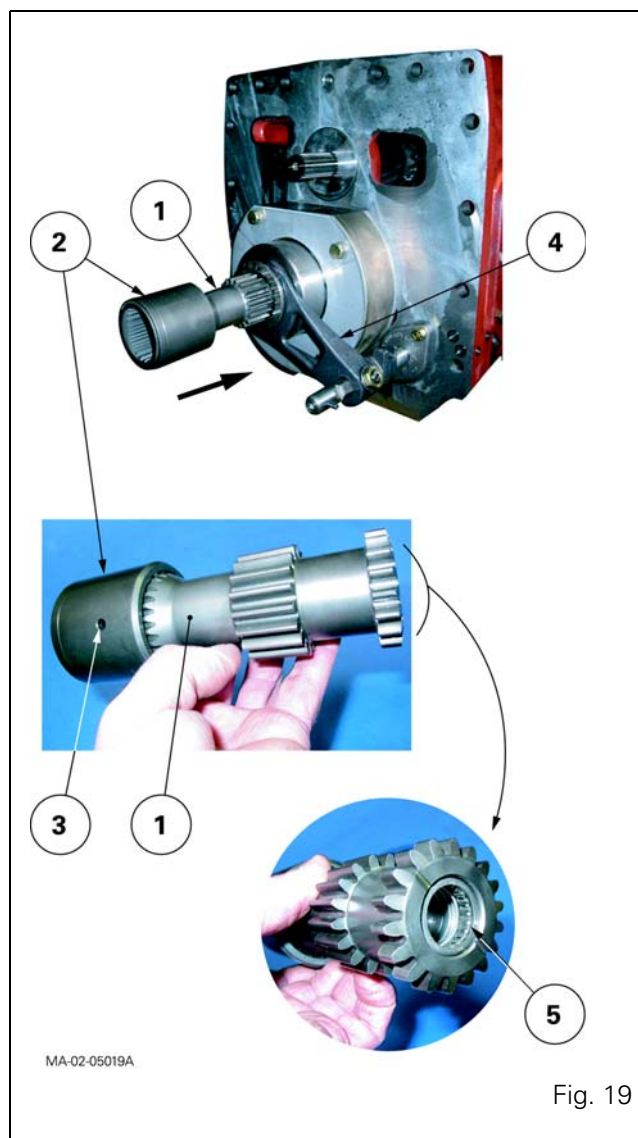

Fig. 19
- Correct assembly of shaft (1) composed of sleeve (2) and double pin (3) (Fig. 19).
77. Push the fork (4) towards the front of the gearbox in direct drive position (Fig. 19).
The gearbox output shaft supports the shaft (1) via the needle roller bearing (5) (Fig. 19).